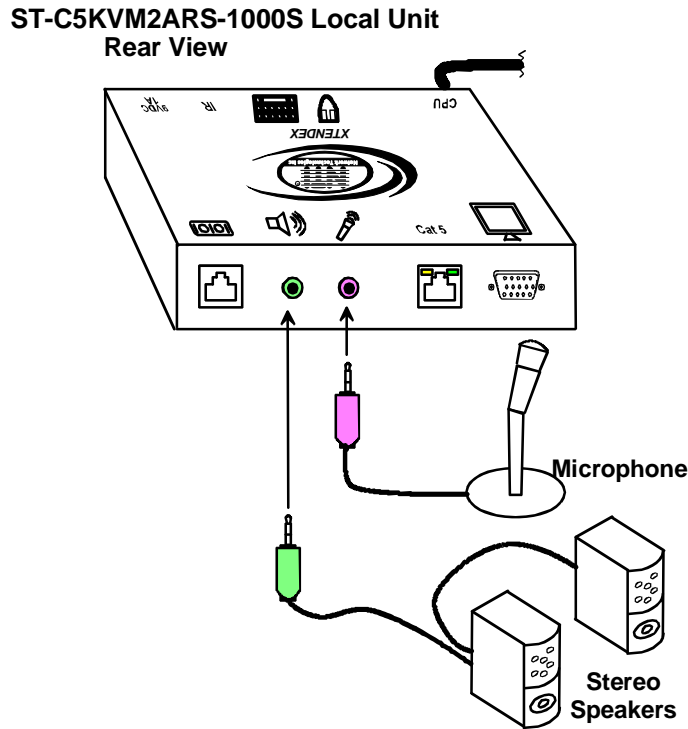

Figure 4- Connect stereo speakers and microphone to XTENDEX Local Unit with audio support
- e) If the Local Unit has audio support, connect the cable from the local speakers to the 3.5mm stereo audio jack with the speaker symbol on the Local Unit. (See Fig. 4) Connect a microphone to the 3.5mm stereo audio jack with the microphone symbol on the Local Unit.